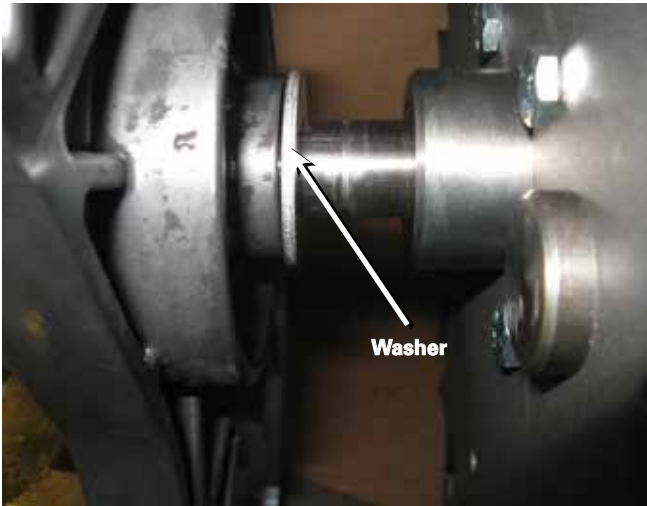

Figure 9. Washer.
- Use a pair of lineman's pliers to remove the retaining ring. Slide the washer up against the movable contact panel. Refer to Figure 9.